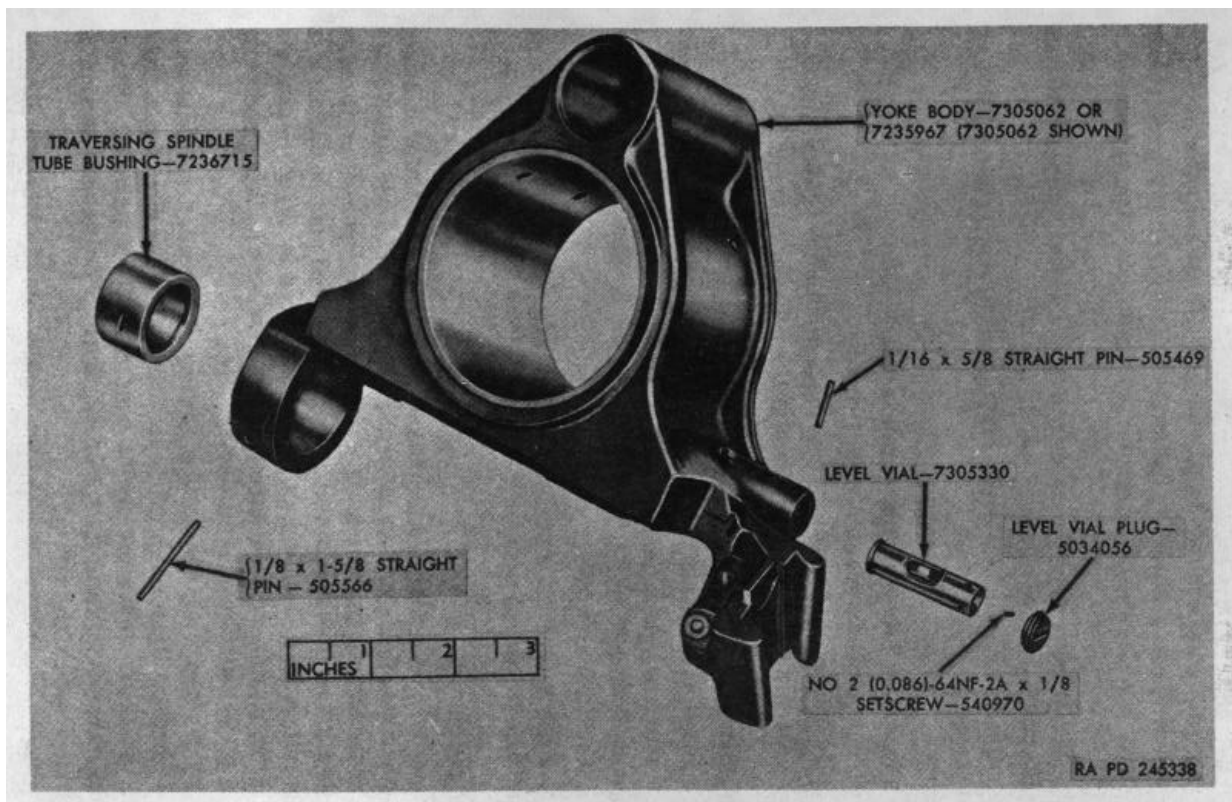

Figure 50. Yoke assembly 7236091 or 7305063-exploded view.
h. Disassembly of the yoke assembly (fig. 50) should not be attempted except to replace broken vial or worn bushing. To remove level vial, drive out straight pin which retains level vial plug in level housing of yoke and unscrew plug, loosen adjusting setscrews of level, and remove level from its housing. To remove traversing spindle tube bushing, drive out straight pin and push out bushing (fig. 50).
- a. Insert level vial into yoke body so that level window is aligned with viewing hole, tighten small adjusting No. 2 (0.086)-64NF-2A x 1/8 setscrews so bubble is centered when centerline through spindle lug holes is horizontal, screw in level vial plug so that hole in plug aligns with that in yoke body, and drive in 1/16 X 5/8 straight pin (fig. 50). Insert new traversing spindle tube bushing and drive in 1/8 x 1 5/8 straight pin (fig. 50).